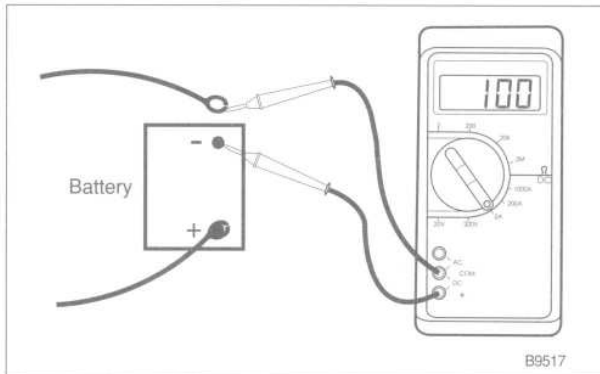

Fig. 1. Electrical system static current draw being measured.
3. Connect a digital ammeter between battery negative post and negative battery cable to measure current. See Fig. 1.